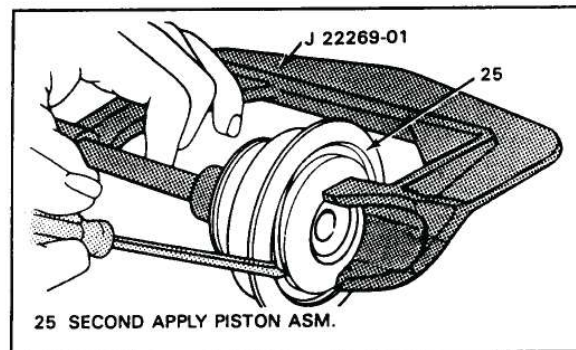

Figure 202
3. Use tool J-22269-01, as shown Figure 202, to compress the cushion spring if necessary.